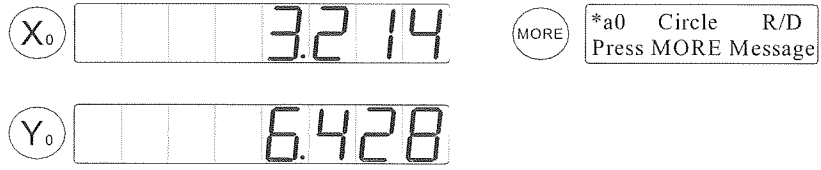

Figure 2-80
b. Press  or  key, the feature a0's message is displayed in figure 2-80. Press the  key to select this feature.